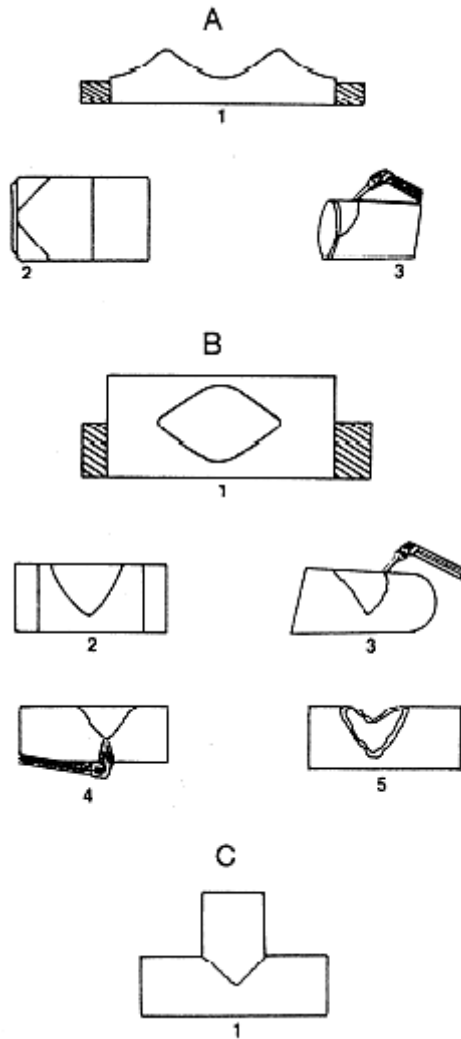

Figure 4-28.—Fabricating a T.
When you make T and Y fittings from pipe, the cutting torch is a valuable tool. The usual procedure for fabricating pipe fittings is to develop a pattern like the one shown in figure 4-28, view A-1.
After you develop the pattern, wrap it around the pipe, as shown in figure 4-28, view A-2. Be sure to leave enough material so the ends overlap. Trace around the pattern with soapstone or a scribe. It is a good idea to mark the outline with a prick punch at 1/4-inch intervals. During the cutting procedure, as the metal is heated, the punch marks stand out and make it easier to follow the line of cut. Place the punch marks so the cutting action will remove them. If punch marks are left on the pipe, they could provide notches from which cracking may start.
The one-step method of cutting and bevelling pipe is not difficult, but it does require a steady hand and a great deal of experience to turn out a first-class job. An example of this method for fabricating a T is shown in figure 4-28. View A of figure 4-28 outlines the step-by-step procedures for fabricating the branch; view B shows the steps for preparing the main section of the T; and view C shows the assembled T, tack-welded and ready for final welding.
Step 3 of view A of figure 4-28 shows the procedure for cutting the miter on the branch. You should begin the cut at the end of the pipe and work around until one half of one side is cut. The torch is at a 45-degree angle to the surface of the pipe along the line of cut. While the tip is at a 45-degree angle, you should move the torch steadily forward, and at the same time, swing the butt of the torch upward through an arc. This torch manipulation is necessary to keep the cut progressing in the proper direction with a bevel of 45 degrees at all points on the miter. Cut the second portion of the miter in the same reamer as the first.
The torch manipulation necessary for cutting the run of the T is shown in Steps 3 and 4 of view B in figure 4-28. Step 3 shows the torch angle for the starting cut and Step 4 shows the cut at the lowest point on the pipe. Here you change the angle to get around the sharp curve and start the cut in an upward direction. The completed cut for the run is shown in Step 5 (figure 4-28, view B).